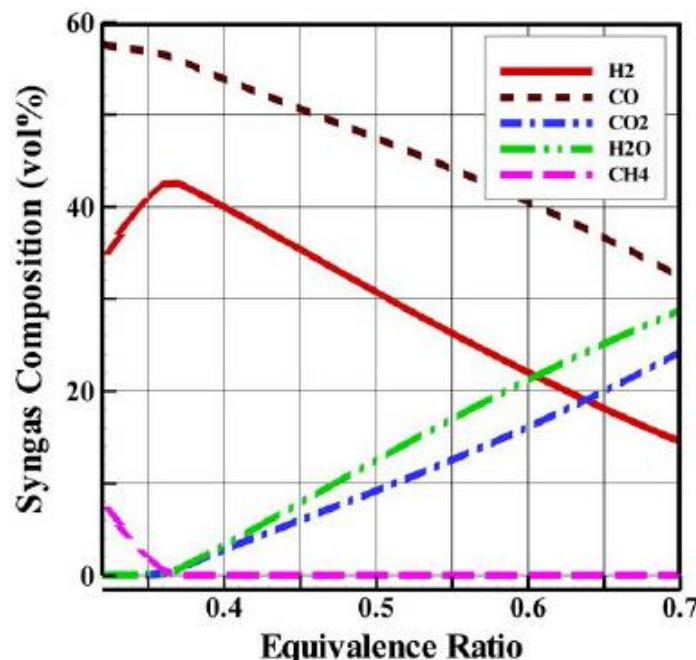

Figure-5: Producer gas composition with variable stoichiometric variation.
- ✓ it may be seen from the following Figure-5 that total energy in the gaseous phase increases with the increase of equivalence ratio, Φ .